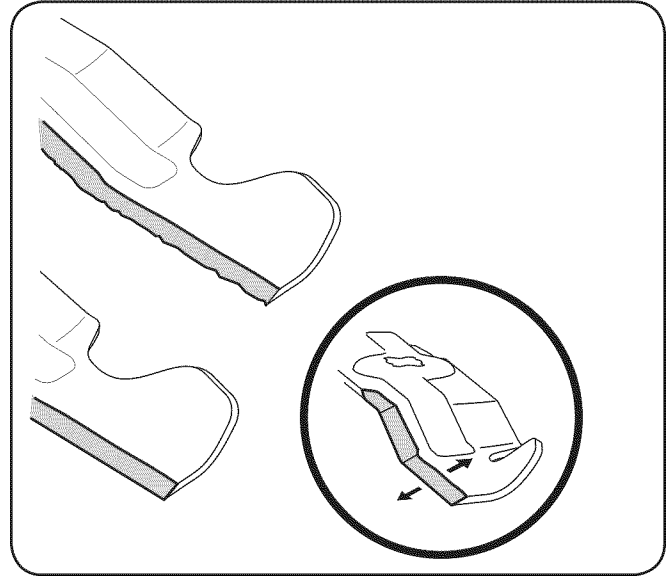

Figure 7-4
4. To properly sharpen the cutting blades, remove equal amounts of metal from both ends of the blades along the cutting edges, parallel to the trailing edge, at a 25°- to 30° angle. Always grind each cutting blade edge equally to maintain proper blade balance. See Fig. 7-4.